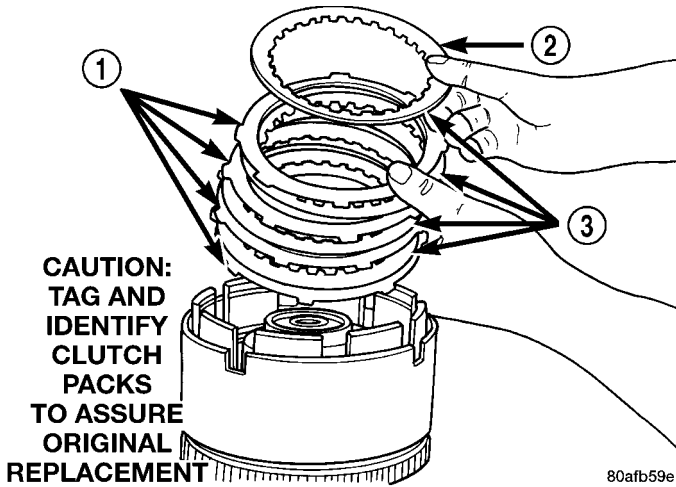

Fig. 258 Underdrive Clutch Pack
(10) Install the UD clutch pack. Leave out upper disc, until snap ring is installed (Fig. 258).